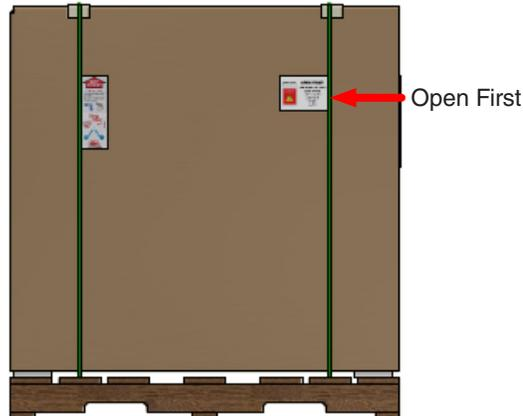

Figure 5a: This Crate has a Carton Banded to a Wooden Skid.
- All QUV testers are shipped in one of two types of crates (Figure 5a and Figure 5b).